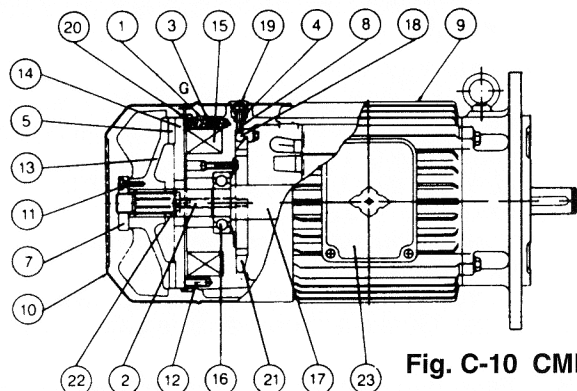

Fig. C-10 CMB-20 Model
1. remove the two bolts (2) using a socket head wrench.
2. install an M8 thread by 30mm long brake adjusting bolt at position #8 Figure C-10.
3. turn the brake adjusting bolt (8) clockwise until the brake is completely released.
4. tighten the restraining nut (7) until the lining (5) nearly contacts the brake wheel.